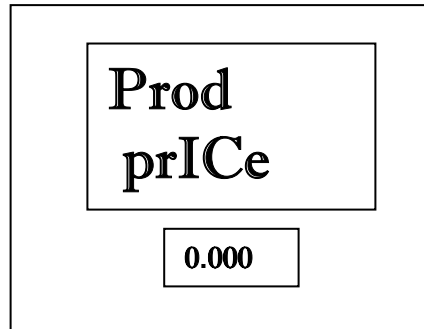

Figure 8
1. Press the 4 button and then the **MODE** button on the keypad. The Price Per volume display is shown. See Figure 8.